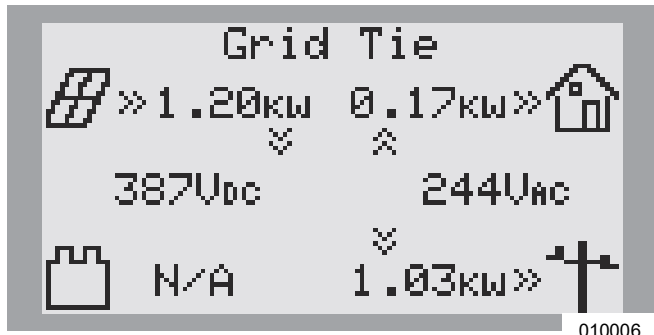

Figure 6-2. Inverter Power-Up
Turn ON main AC backfeed to power-up the inverter. See Figure 6-2. On power-up, the home screen will appear on the control panel LCD with the system mode listed at the top of the home screen.
1. See Figure 6-2. While viewing the home screen press the center button.